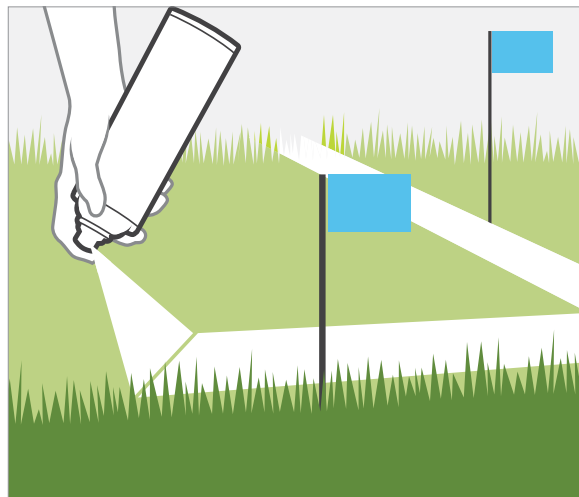

Figure 1
1. Using marking spray paint and small flags, indicate the pipe lines from the P.O.C. to the valve manifold locations. Mark the layout of the irrigation system *Figure 1.*